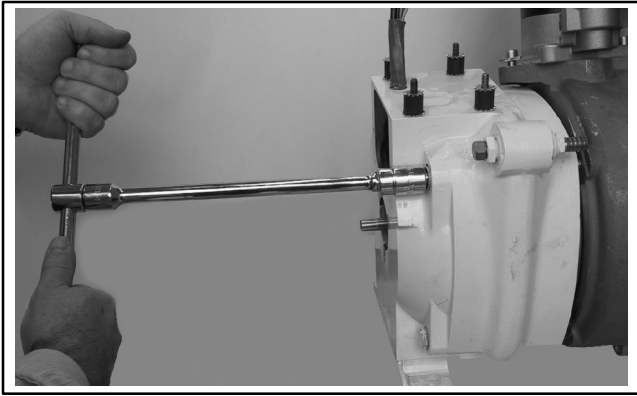

Figure 10-20 Stator Housing
4. Screw (without tightening) the four M10 x 140 stator housing screws with a 17 mm socket wrench. See Figure 10-20.